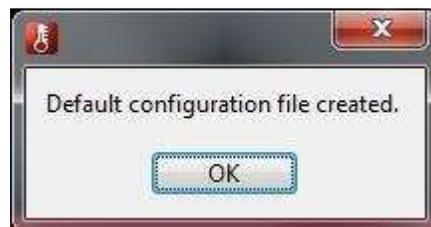

Figure 20. Default Configuration
1. Connect the TMP1075EVM to a USB port on a PC as shown in Figure 20.